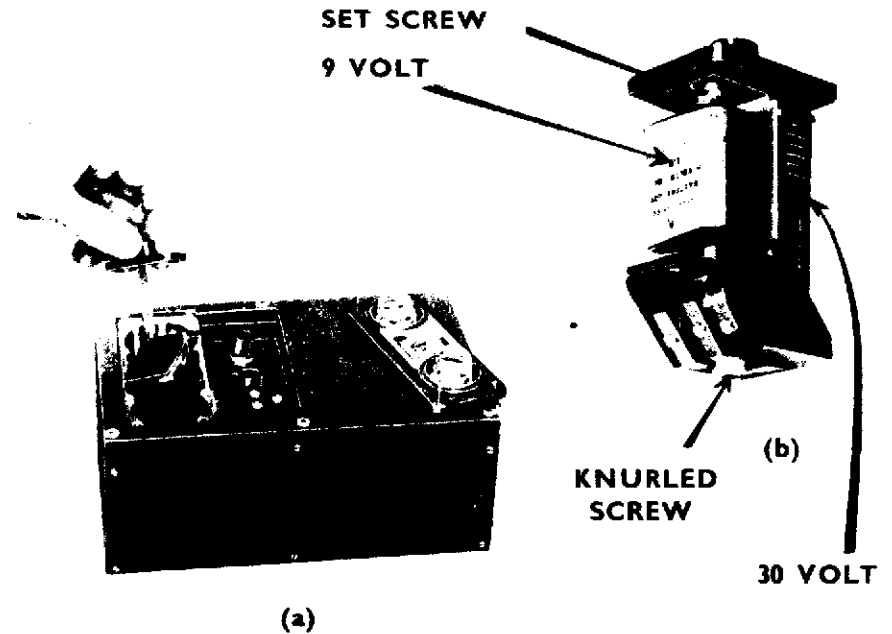

Fig. 4
(1) Remove the instrument from its haversack and lay it on its side with the controls uppermost.
(2) Remove the battery cover by slackening the four fixing screws and then withdraw the battery holder, as shown in fig. 4(a).
(3) Referring to fig. 4(b), slacken the knurled screw on the battery holder and remove the existing 30 volt battery, if fitted.